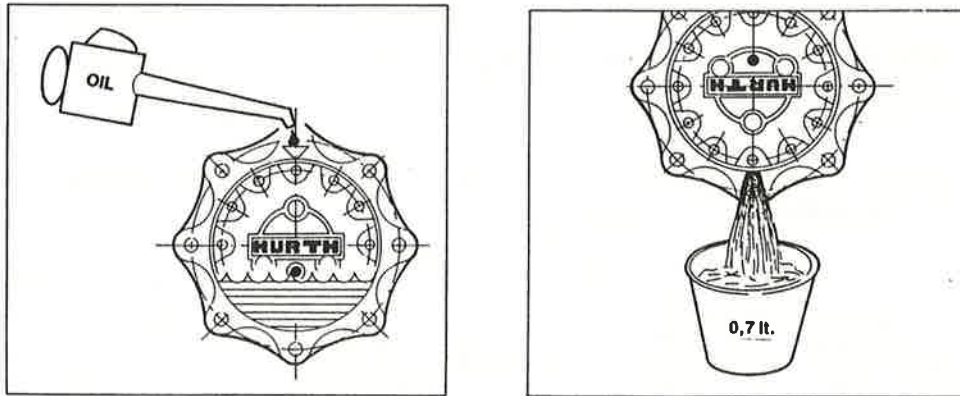

Figure 51. PLANETARY
11. **PLANETARY (Hurth Axle)** - Keep oil at level of the plug on planetary (See Figure 51). If low, add per component capacities chart on page 58.